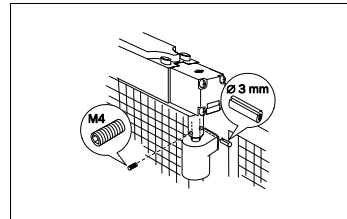

Fig. 2: Ensuring a positive fit between switching shaft and hinge
- the safety switch must be fitted with 2 M4 screws, and the screws must be tightened to 1.4 Nm (see Fig. 2).
- Connect switching shaft for the safety switch and hinge using an setscrew M4 and key \varnothing 3 mm (see Fig. 2).